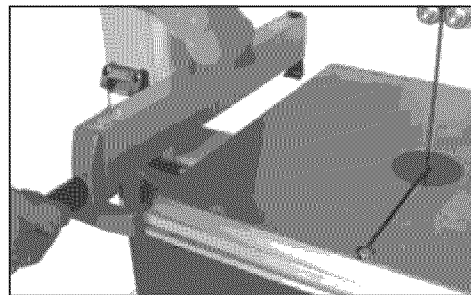

Figure 7 - Install Rip Fence
- Lay the rip fence onto the guide rail. Adjust the rip fence parallel to the saw blade. Tighten rip fence handle by pressing downward (see Figure 7).